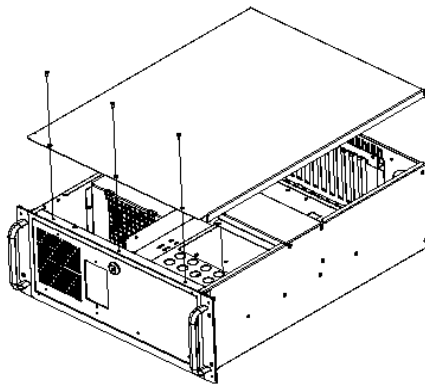

Figure 2-5. Removing the Top Cover
2. Open the 1600 unit by removing the three screws from the top cover (see Figure 2-5).